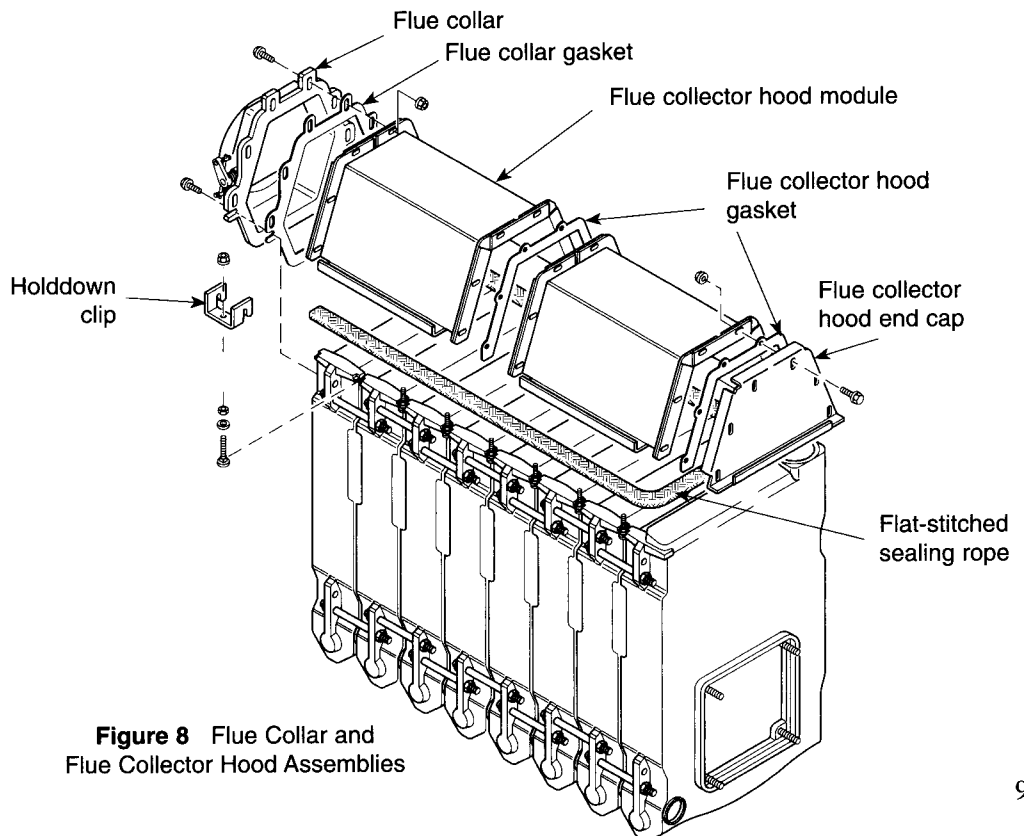

Figure 8 Flue Collar and Flue Collector Hood Assemblies
3. Lay gasket on flange. Refer to Figure 8.